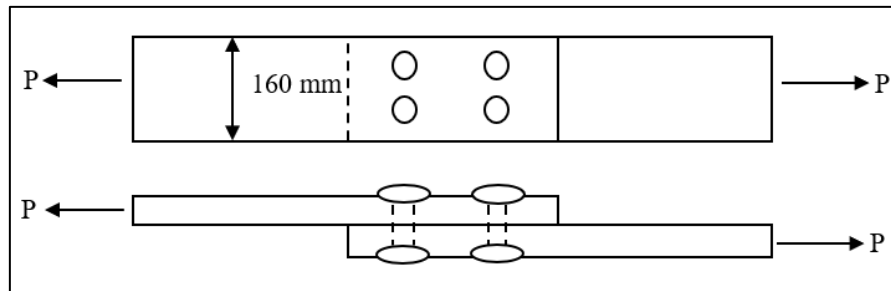

Figure A1(c)
- (c) The lap joint as shown in Figure A1(c) is connected by four 20 mm diameter rivets. Calculate the shear stress in the rivets. Assume that the load $P = 120 \text{ kN}$ is carried equally by the four rivets.